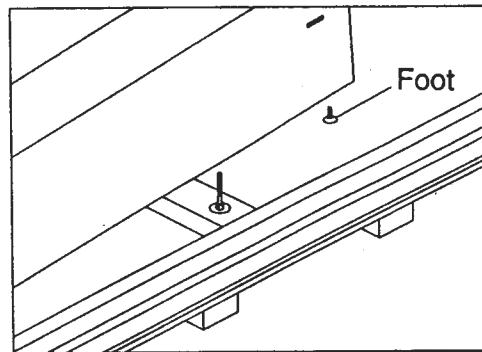

Fig. 1
6. Add burster feet to burster. (Fig. 1)